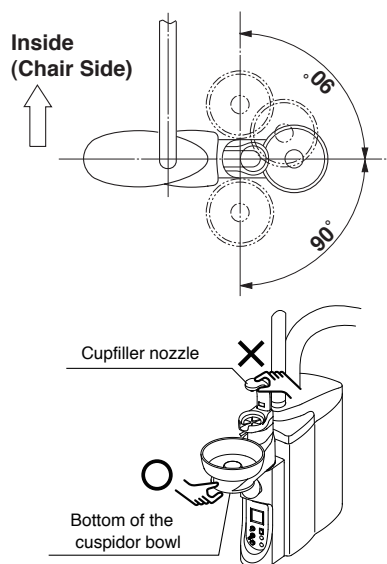

Fig.3-26 Cuspidor Bowl Rotation
(6) Cuspidor Bowl (Optional) (Fig.3-26)